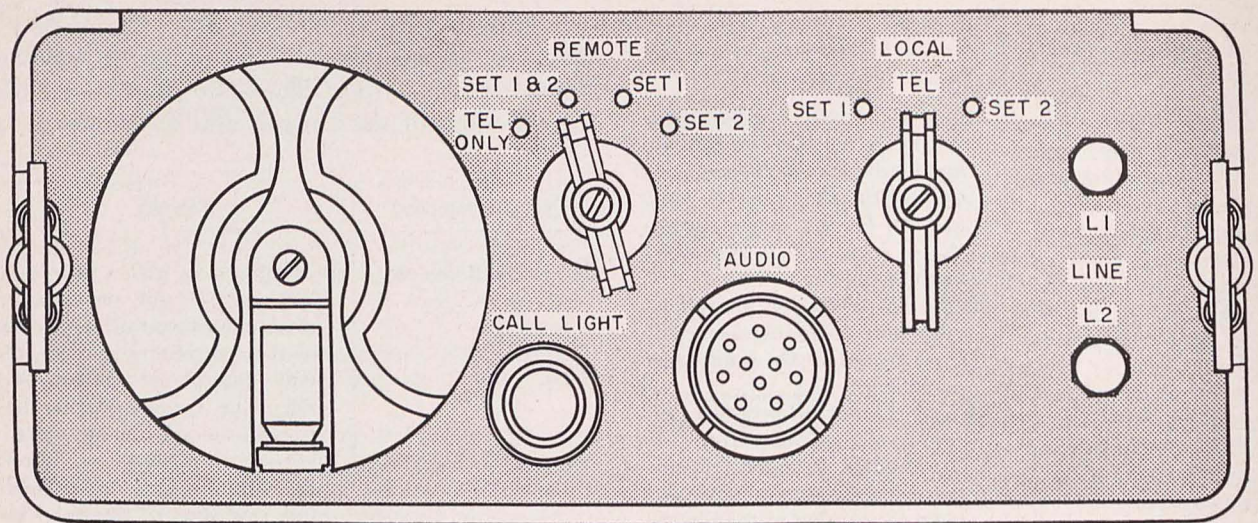

Figure 32. Local Control C-434/GRC, panel view.
a. LOCAL CONTROL C-434/GRC. Figure 32 illustrates the layout of controls and instruments on Local Control C-434/GRC. The following chart lists the functions of controls and instruments.